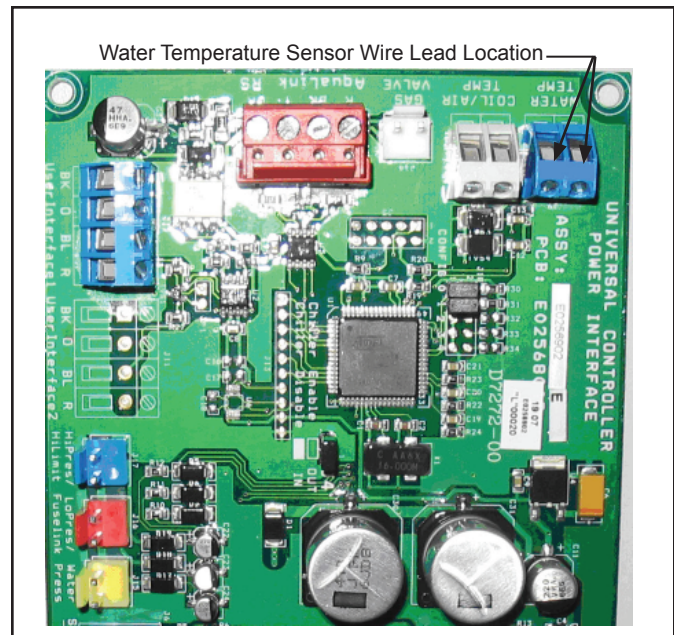

Figure 2. Removal of Water Temperature Sensor Leads
1. Remove the service access panel by removing the four (4) screws holding it in place.
2. Remove the one (1) screw that secures the junction box cover to the junction box and set it aside.
3. Remove the two (2) wires from the blue 2-position terminal block in the upper right hand corner of the power interface board. See Figure 2.
4. Connect the wires to the blue 2-position terminal block on the upper right-hand corner of the power interface board. (See Figure 2 or the wiring diagram on back of the service access panel.)
6. Replace the service access panel and secure it with the four (4) screws removed earlier.